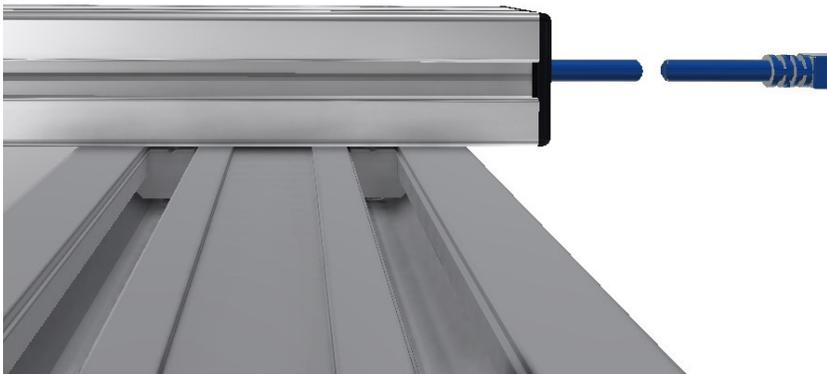

Figure 3
2. With bent extrusion arm oriented parallel to mounting extrusion, align button heads of (4) mounting screws in unit with corresponding  $\varnothing 9/16$ " bores in underside of Sodr-Cam 30mm x 60mm mounting extrusion (see Figures 1 & 2) and lower downward so underside of 30mm x 60mm extrusion sits flush on top surface of 45mm x 90mm unit extrusion. (see Figure 3)